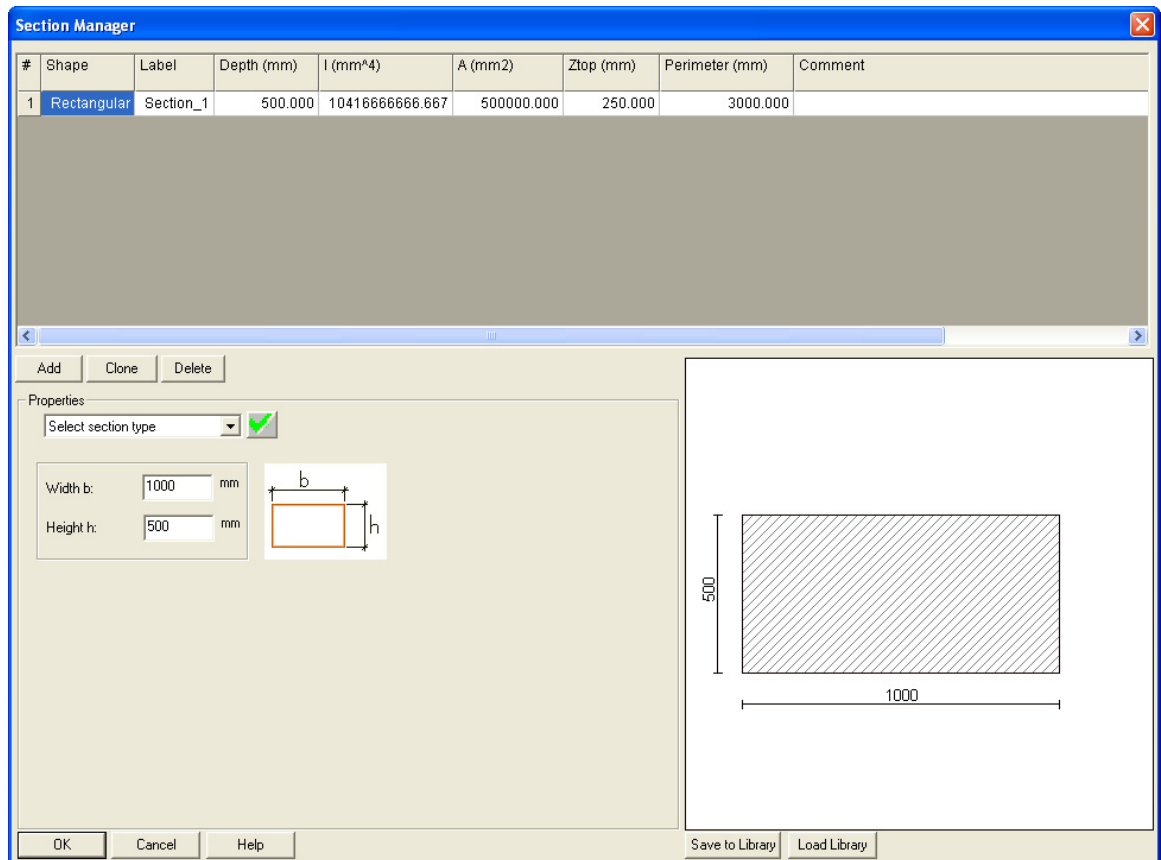

FIGURE 2.14-11 SECTION MANAGER DIALOG WINDOW
**Define Sections.** This tool opens the Section manager dialog box (Fig. 2.14-11). Here you can define one or more sections and include them in the list of available sections. For example to create T-section follow these steps: